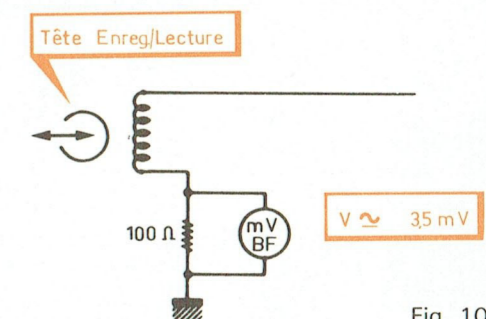

Fig. 10
C. MESURE DU COURANT NOMINAL DANS LA TÊTE ENREG/LECTURE (Fig. 10)